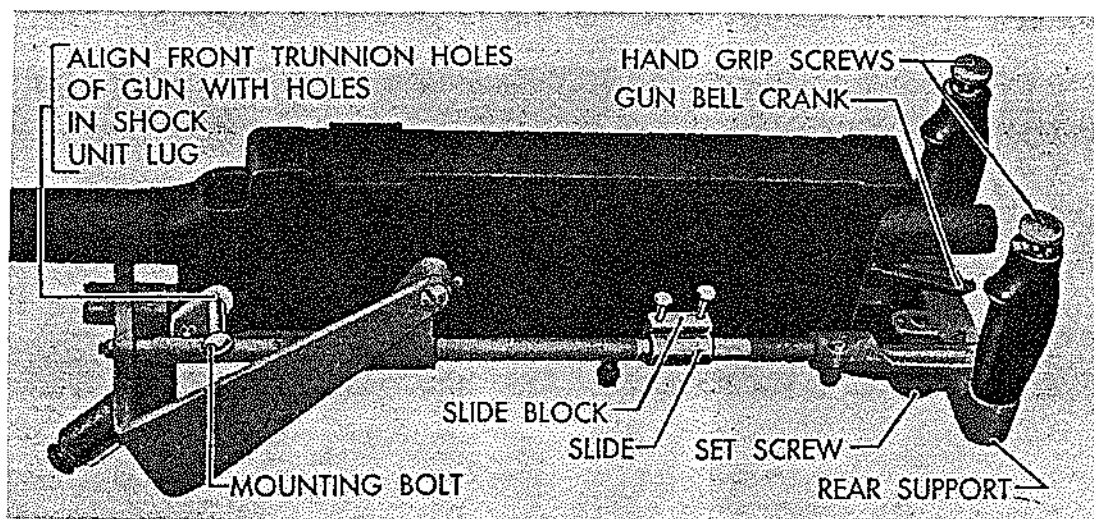

Figure 26A
- (b) Place gun in adapter as shown in Fig. 26A.
- (d) Align front trunnion holes of gun with holes in shock unit lug, as shown in Fig. 26A, and replace mounting bolt, nut, and cotter pin.